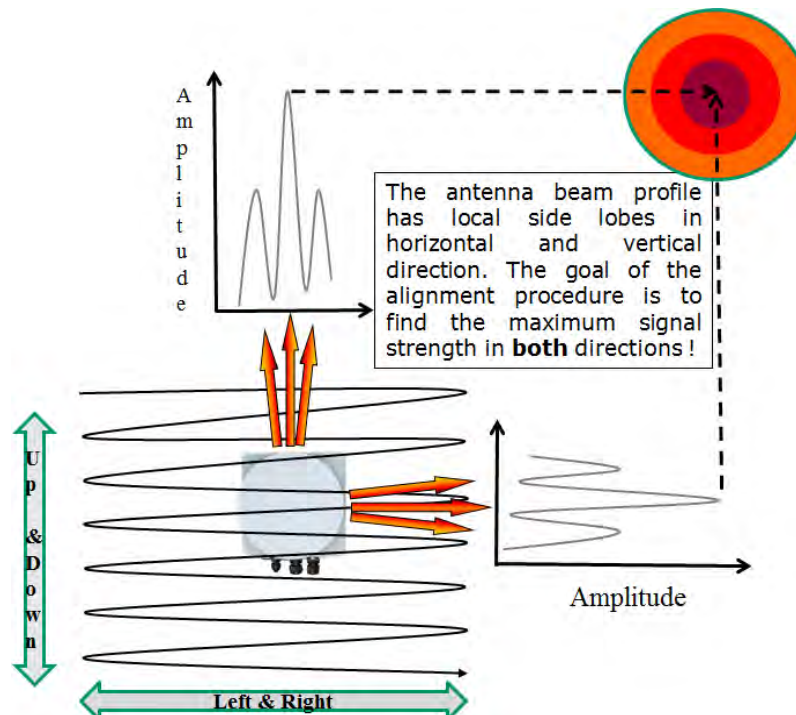
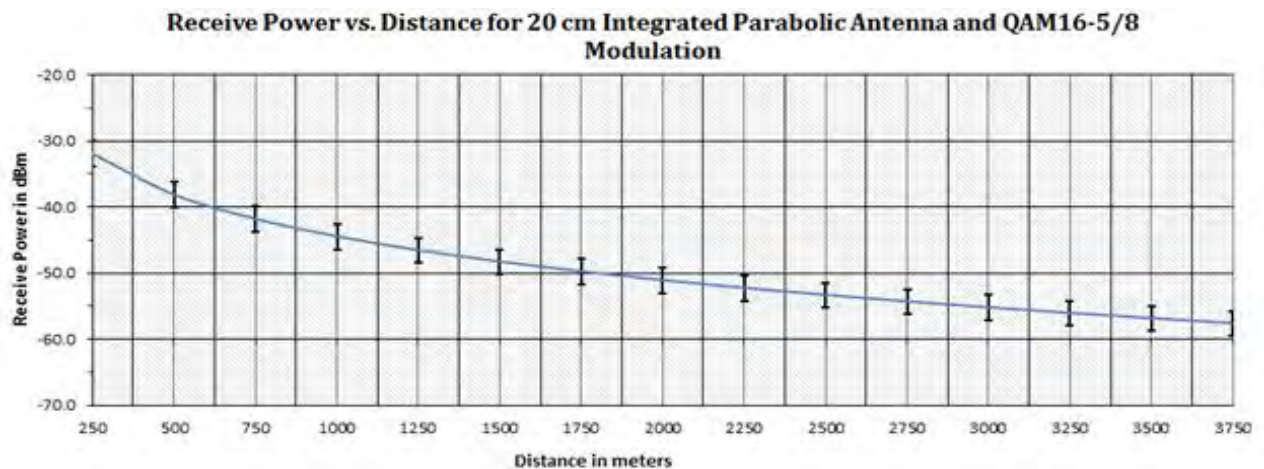
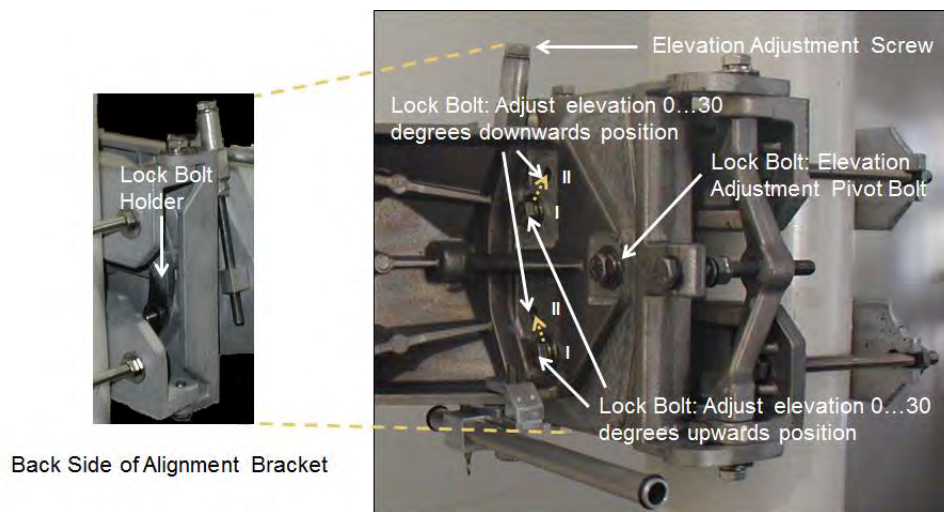
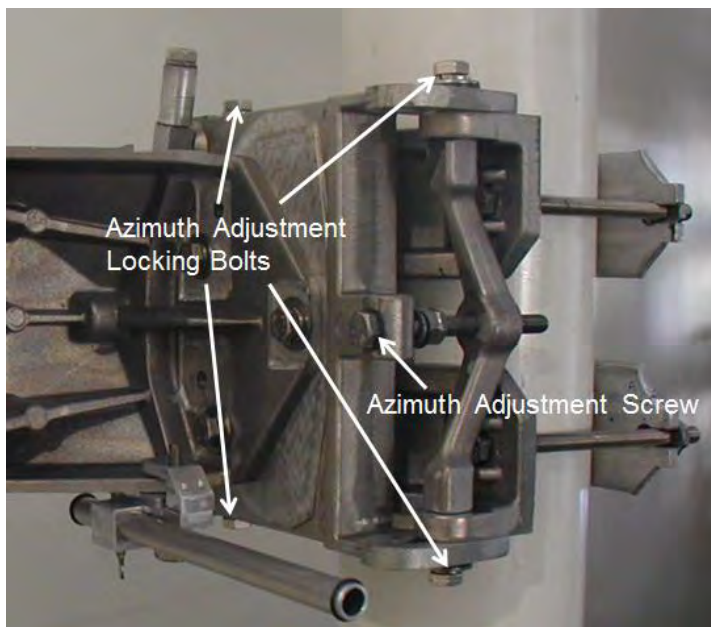

Figure 5-7: Simple illustration of the alignment process
Figure 5-8: Typical AireLink 80-SX RSSI vs. Distance Charts for standard distance setting.
Figure 5-14: Elevation Adjustment
Figure 5-15: Azimuth Adjustment
8. The alignment tool is meant to provide a rough alignment towards to opposite antenna location. It is however not an exact tool for finding the best alignment of the antennas. More precise alignment is done via the digital voltmeter or the *LightPointe BLE Tool* that measures the receive signal strength/RSSI voltage. Within several dB of accuracy the RSSI voltage reading in Volt corresponds to the RF RSSI signal reading in dBm. In other words, and with the correct polarity chosen, a system that is not aligned at all will show a negative voltage reading close to -0.80 Volt and this translates into -80 dBm. This signal level is far too low to establish a data connection. During the alignment process the voltage reading will increase, meaning “less negative” voltages or higher RF RSSI reading in dBm will be recorded. The goal is to align the system at its best possible and highest RSSI reading (e.g. increase the voltage reading from -0.8 V to -0.5 V). LightPointe provides a distance vs. voltage reading chart for the AireLink 80 system using either the integrated or the external antenna options (see Figure 5-8). When using the *Lightpointe BLE Tool*, the RSSI reading is given in dBm directly.
10. Ensure that the antennas are not aligned on a side-lobe. In particular when the system is installed over short distances the side-lobes can be easily seen. Rotate the antenna a few degrees to each side of the perceived alignment center and both side-lobes can be detected as "local RSSI voltage minima". The main lobe which is located right in the middle between the two side lobes will have a much higher voltage reading. Fig. 5-7 shows a simple illustration of the alignment process and the location of the antenna side lobes in relation to the main lobe.
11. When aligning the system it is important to take a look at the Receive Signal Strength chart shown in Fig. 5-8. The RSSI chart shows the RSSI signal voltage as a function of the deployment distance in clear weather conditions. Therefore, and when the system is installed under non-clear weather conditions, the values can be lower during the actual installation process. 80 GHz systems are also impacted by oxygen absorption (see Fig. 2-2) and these values can also vary several dB between sea level installations and installations at higher altitudes. The RSSI values are different for the low band and the high band radio and the values vary slightly and within a few percent from one radio system to another due to manufacturing tolerances. However, the chart provides a very good indication of expected RSSI values as a function of deployment distance. The overall goal of the alignment process is to align the system as close as possible to the RSSI value provided in the RSSI chart.
12. After maximizing the RSSI signal levels on both sides of the link, do not forget tightening the Elevation and Azimuth Locking Bolts (see Fig. 5-7 and Fig. 5-8).
To adjust the elevation settings of the antenna, see Fig. 5-7 and perform the following steps:
3. In case the elevation must be adjusted upwards, ensure that the two Elevation Locking Bolts marked I / II in Fig. 5-14 are both in position I. If not, keep the Pivot Bolt in place and unscrew these two locking bolts. Support the antenna when removing the last/second bolt to avoid the antenna sliding down. On the back of the alignment bracket is the lock bolt holder (see Fig. 5-7) and it needs to be put in place again before re-inserting the bolts in position I. Do not completely tighten the bolts to allow the antenna to move when turning the Elevation Adjustment Screw.
1. To adjust the azimuth settings of the antenna see Fig. 5-15 and perform the following steps:
9. After maximizing the RSSI signal levels on both sides of the link, do not forget tightening the Elevation and Azimuth Locking Bolts (see Fig. 5-14 and Fig. 5-15).
3. Look through the Alignment Sight Tool and turn the Elevation and Azimuth Adjustment Screws (see Figures 5-14 and 5-15) until the opposite antenna location shows in the middle of the Alignment Sight Tool. The inside of the tool is reflective and this helps to center the remote antenna site location. In case the opposite side is too far away to be clearly seen, please use binoculars to find an easy recognizable landmark close to the opposite antenna side. Perform the same procedure at both sides.
8. After maximizing the RSSI signal levels on both sides of the link, do not forget tightening the Elevation and Azimuth Locking Bolts (see Fig. 5-14 and Fig. 5-15). Please, write down the RSSI voltage values for the A-V and B-V antennas.